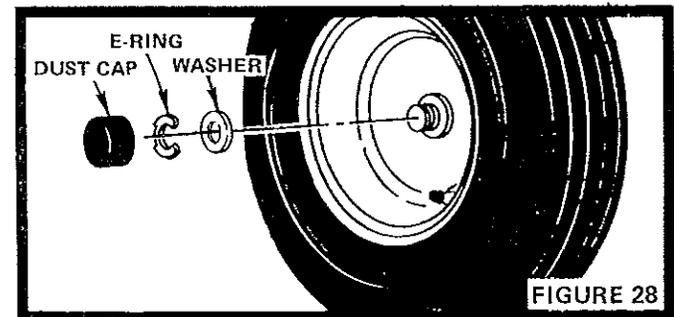

FIGURE 28
- d. Removing front wheel for tire repair (Fig. 28).